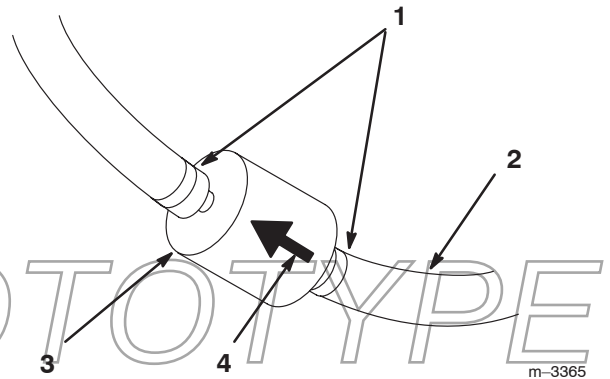

Figure 44
5. Squeeze the ends of the hose clamps together and slide them away from the filter (Fig. 44).